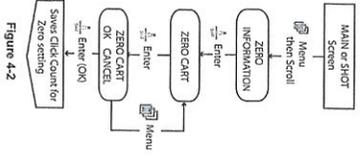

Figure 4-2
This menu option is used to zero the individual cartridge or change the cartridge zero range. Zero range options are 100, 200, or 300 yards or meters depending on the range increment used during initial programming. BORS does not need to be connected to a computer for this process. Figure 4-2 illustrates the process of zeroing a cartridge.
1. To zero a cartridge (Figure 4-2):